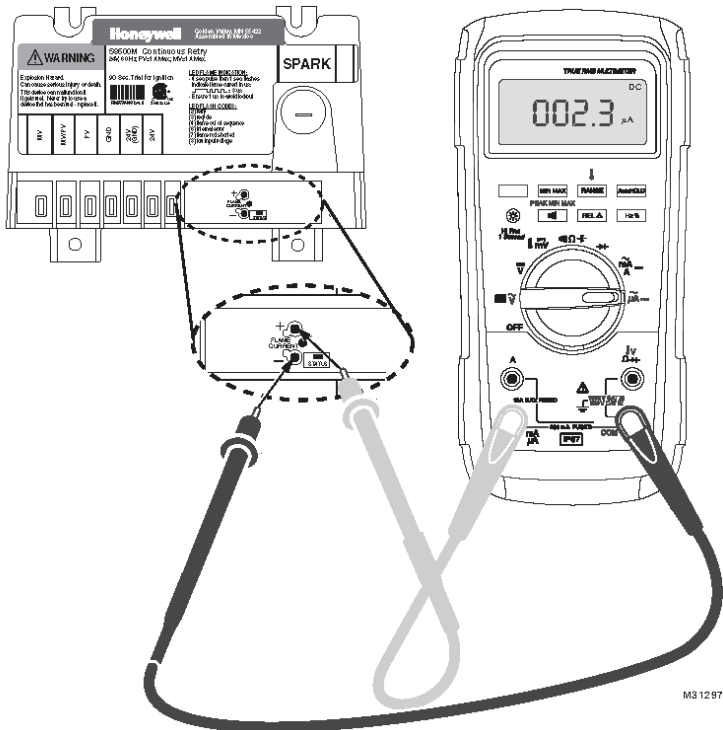

Figure 14: Measuring Pilot Flame Current with Micro-ammeter
- Flame Current Measurement Procedure. See Figure 14 “Measuring pilot flame current with micro-ammeter”
- Pilot flame current in micro amps can be measured using any standard micro-ammeter by inserting the meter probes into the module holes labeled FLAME CURRENT as shown in Figure 14.